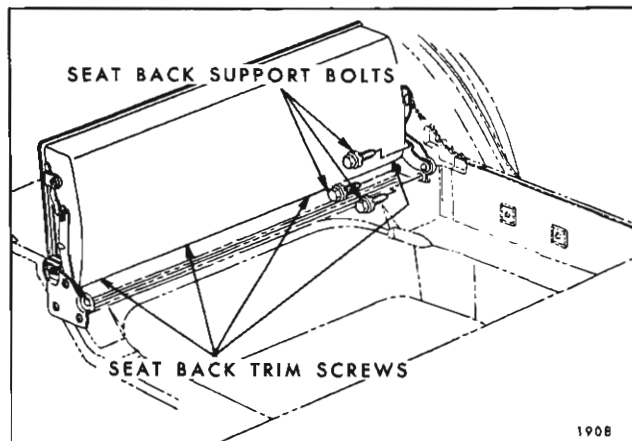

Fig. 1H34—Folding Third Seat Back
3. To install, reverse removal procedure. If support was removed from seat cushion panel, make sure bushing and spring washer are properly installed. (See Fig. 1H33).